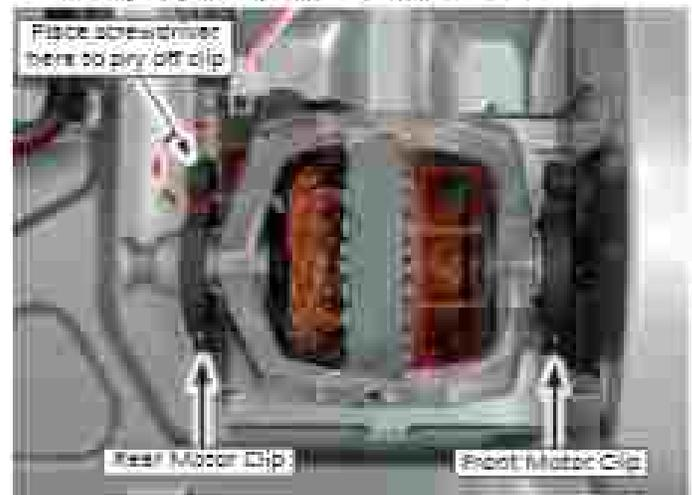

Figure 4 - Drive motor retaining clips
9. Locate the front and rear motor clips as illustrated in Figure 4 below. Using a small flat blade screwdriver, insert the blade of the screwdriver into the pocket at the tip of the clip. Pry the clips off the tab and remove.